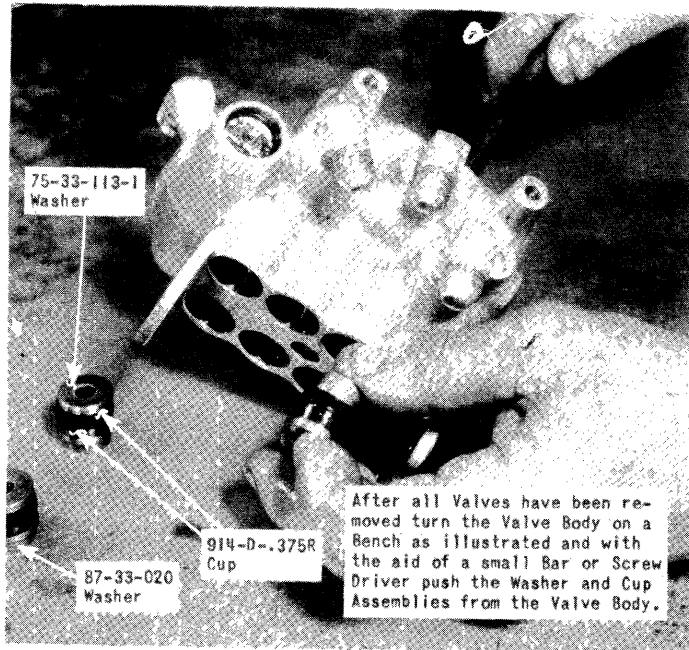

Figure 137 - Removing Valve Cups and Washers from Valve Body
(15) After all valves are removed, free the valve body from the vise and lay it on the bench so that a small diameter bar or screw driver may be inserted from the bottom side of the valve body to push the assemblies containing a top and bottom washer, two rubber cups and a spacer out of the valve body. (See figure 137.)